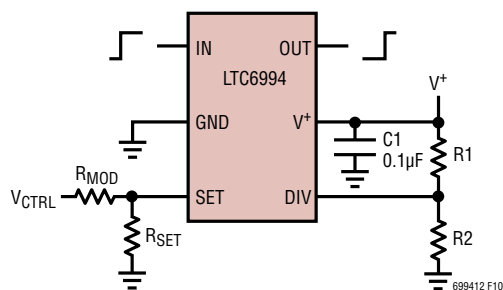
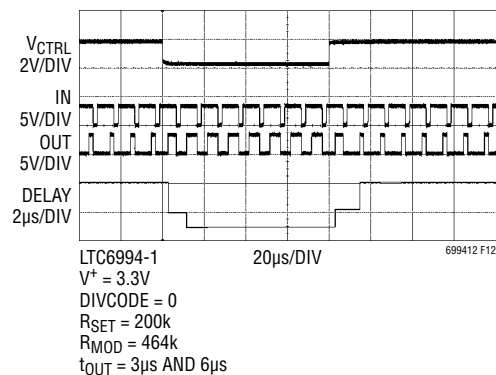

Figure 10. Voltage-Controlled Delay
Figure 12. Typical Settling Time
With one additional resistor, the LTC6994 output delay can be manipulated by an external voltage. As shown in Figure 10, voltage  $V_{CTRL}$  sources/sinks a current through  $R_{MOD}$  to vary the  $I_{SET}$  current, which in turn modulates the delay as described in Equation (3):
Following a  $2\times$  or  $0.5\times$  step change in  $I_{SET}$ , the output delay takes approximately six master clock cycles ( $6 \cdot t_{MASTER}$ ) to settle to within 1% of the final value. An example is shown in Figure 12, using the circuit in Figure 10.